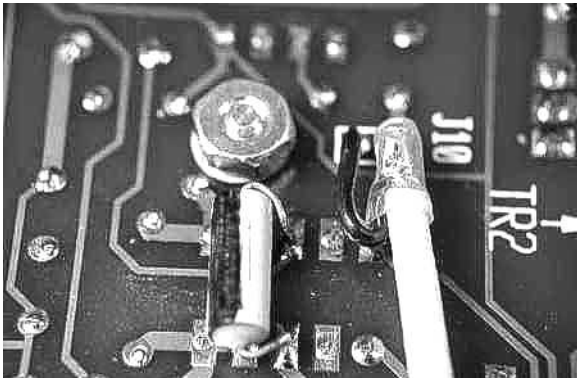

Figure 2
- B. Solder the 15 μ H RF choke on the bottom of the RF board, between pins 3 and 8 of K1 (see Figure 2 & 3).